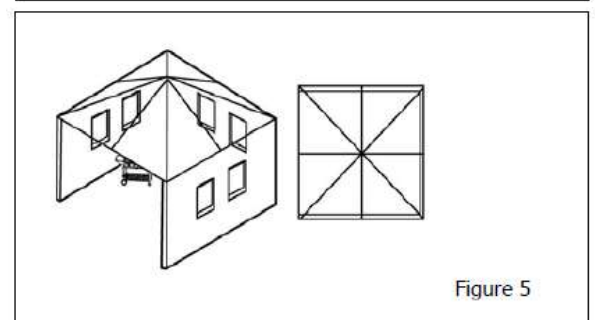

Figure 5
- b) 30% or more in total of the remaining wall area is open and unrestricted. (Figure 5)